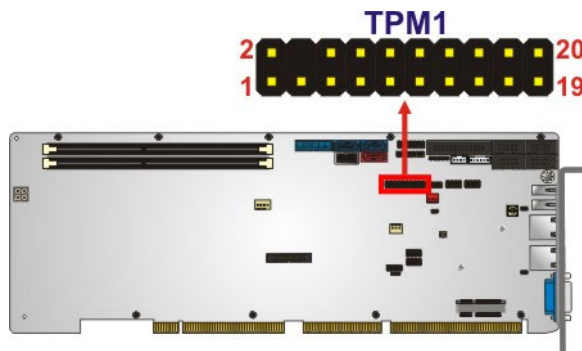

Figure 3-28: TPM Connector Location
- CN Location:** See **Figure 3-28**